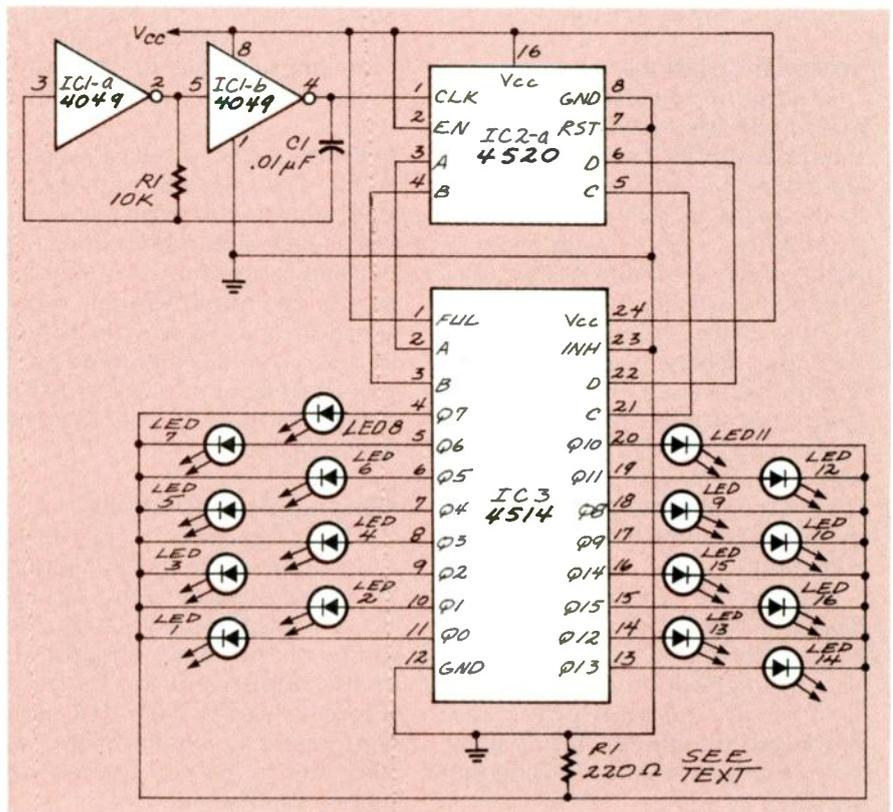

FIG. 2
A control node is shown in Fig. 2. Each node has a unique 7-bit address that is set via DIP-switch S1, which connects to the seven address lines (A0-A6) of IC3.
As shown in Fig. 2, the four-conductor bus runs straight through each node from J1 to J2. One line is for ground, another for +12-volts DC, one for the common transmit line (TRO), and another for the common receive line (RI). The overall length of the bus (from the RS-232 interface to the last node on the bus) depends on the degree of electrical noise in the operating environment. The author has successfully operated three nodes, using 20-gauge unshielded cable, at a cumulative length of 200 feet.
FIG. 2—THE HEART OF A NODE is the MC14469, an addressable UART. When a node is addressed, data present on pins 11-18 and 22-29 is transmitted to the host. The address is set on pins 4-10.